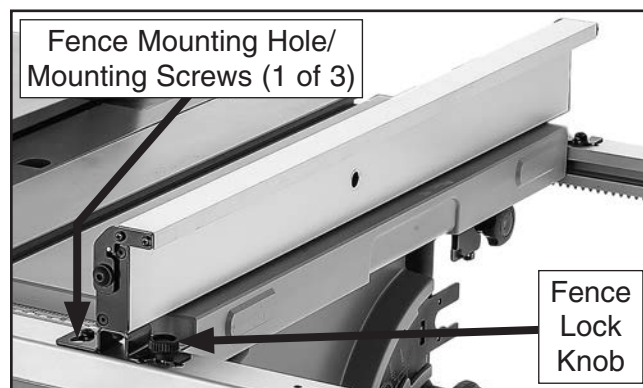

Figure 12. Table extension partially installed.
2. Attach table extension rest to (2) table extension shafts using (2) 6mm flat washers and (2) M6-1 x 10 Phillips head screws (see **Figure 12**).
3. Insert table extension shafts into mounting holes on rear of machine (see **Figure 12**).
4. Thread (2) table extension lock knobs into locations shown in **Figure 12**.